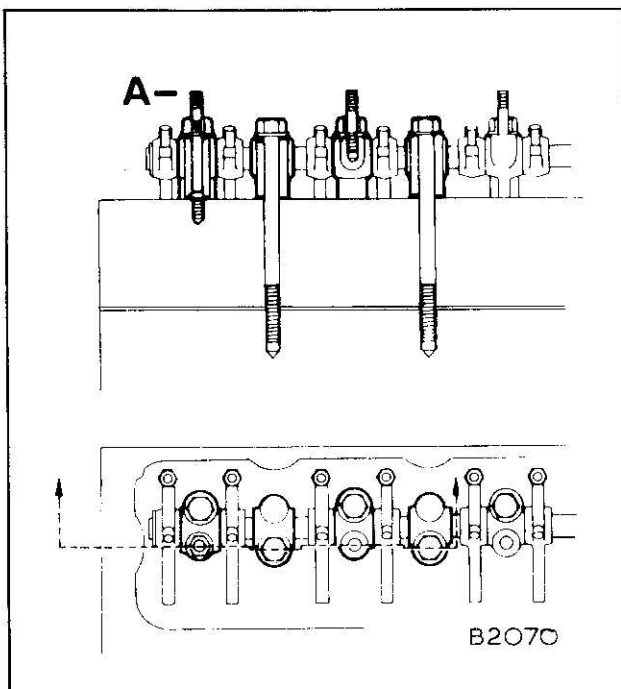

Fig. 1
3. Remove the nuts from the two studs locating the rocker arm shaft 'A', Fig. 1.
See also 'Alternative Rocker Shaft Location' (Fig. 1).